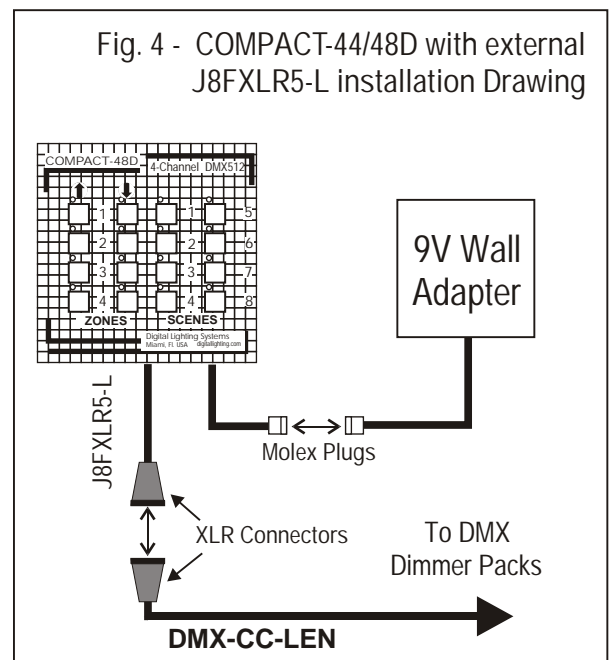

Fig. 4 - **COMPACT-44/48D** with external J8FXLR5-L installation Drawing
4. Connect the **COMPACT-44/48D** to the Dimmer Pack using the DMX cable (DMX-CC-LEN) to either internally mounted (**COMPACT-48D-AE**) or externally mounted XLR connector (**COMPACT-48D** on request and **COMPACT-44D**, see Fig.4). Skip to Operating Instructions.
The **COMPACT-44/48D** panels use a standard 5-Pin Female XLR connector to connect to DMX equipment as seen in Figs. 4 & 5. They are also available on request with an unterminated pigtail that plugs into the back of the unit so that customer may make their own DMX connections, or with a pre-terminated cable with XLR connector to the customer's desired length (J8FXLR5-L). An external transformer supplies power via a 2-pos. Molex type connector.